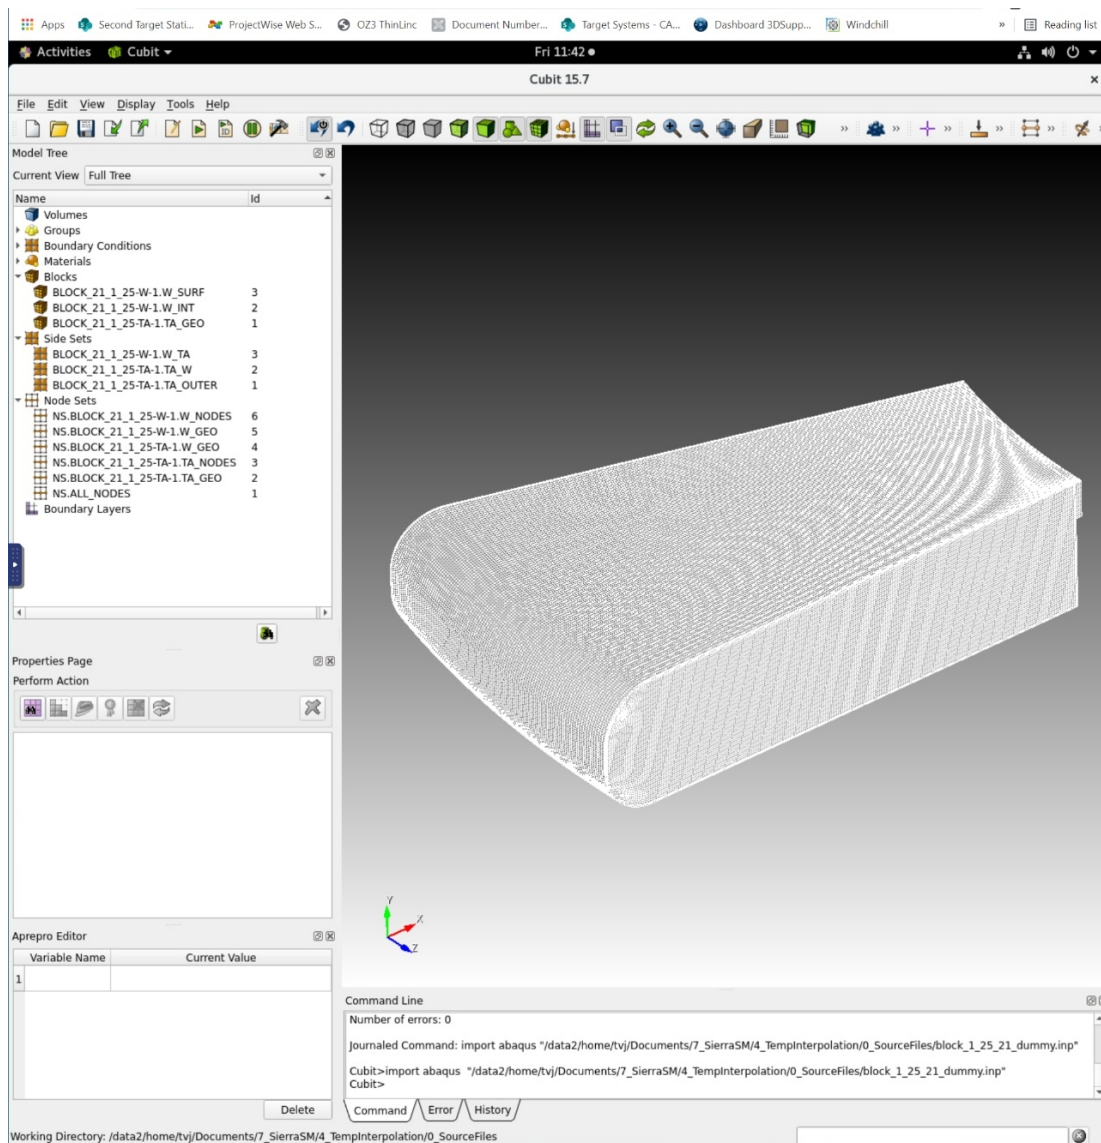

Figure 4: CUBIT screenshot showing successful import of Abaqus mesh.
- Figure 4 shows the mesh after import. Rename blocks and sets of interest as needed. Avoid minus "-" characters as these are invalid in Sierra. Delete any unnecessary node sets.